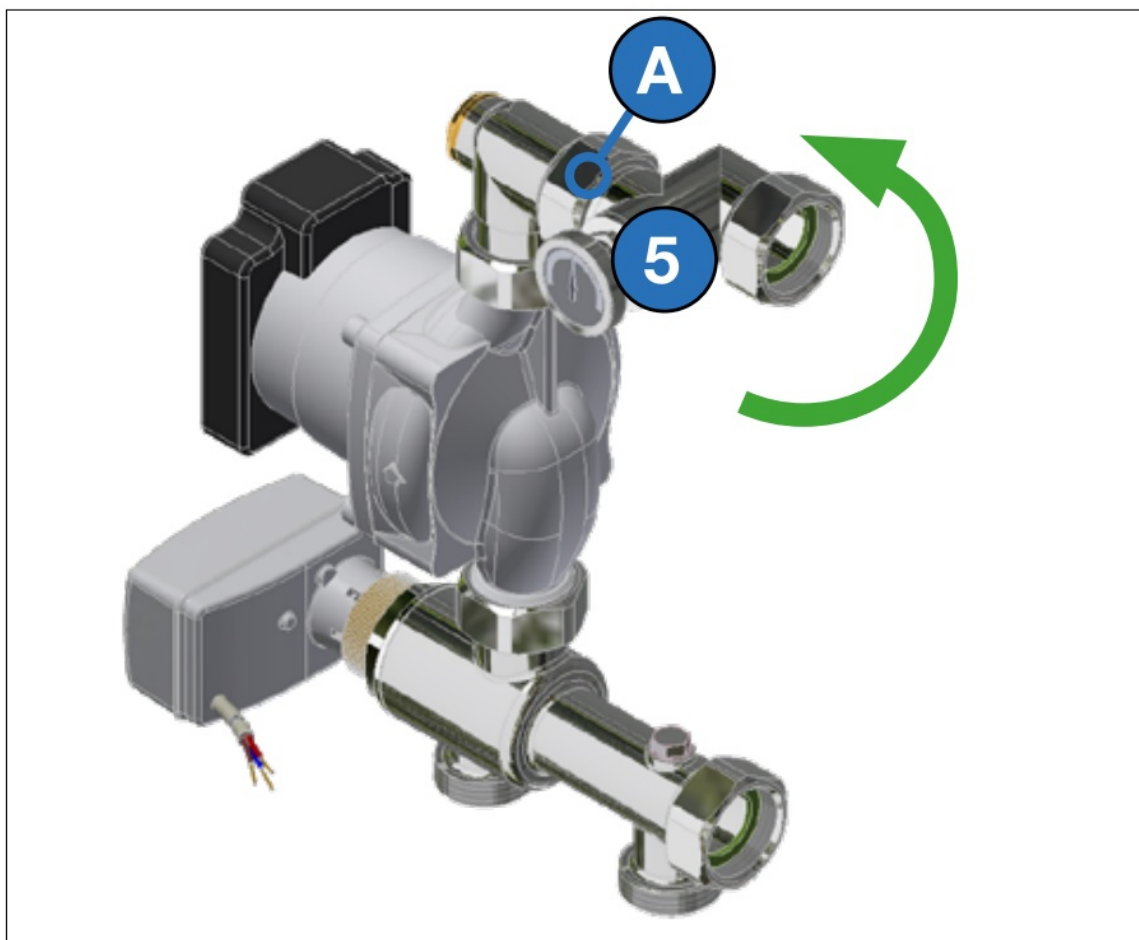

Fig. 8-1
The control station can be fitted on the right or left of the manifold by turning the eccentric screw fitting (5, Fig. 8-1), also upside down.
1. Release nut (A, Fig. 8-1)